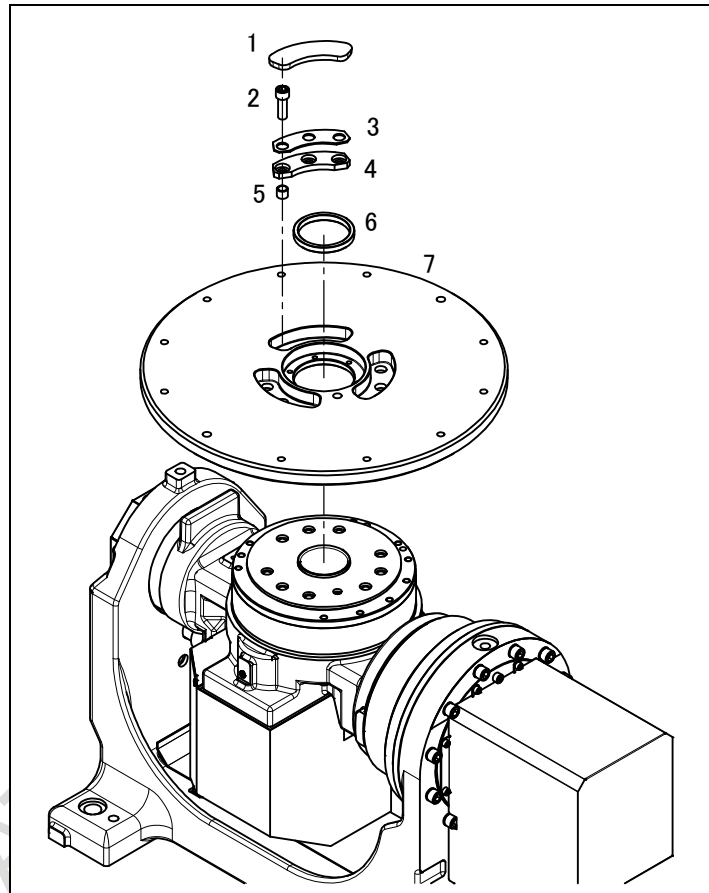

Fig. 6.2 (a) Replacement of the J1-axis reducer 1
- 4 Remove the cover (1), bolts (2), insulators (4), washer plates (3), collars (5),(6), flange (7), in the order in which they are overlaid (see Fig. 6.2 (a)).